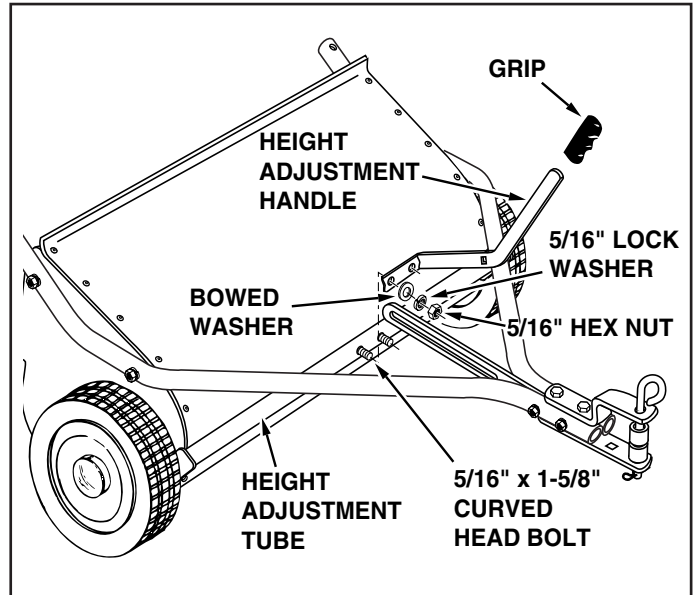

FIGURE 5
10. Assemble the height adjustment handle to the height adjustment tube using the curved bolts, washers and nuts which come pre-assembled to the tube. Tighten the height adjustment handle so that the height adjustment strap is aligned with the outside of the handle. See figure 5.
11. Assemble the grip onto the end of the height adjustment handle as shown in figure 5.